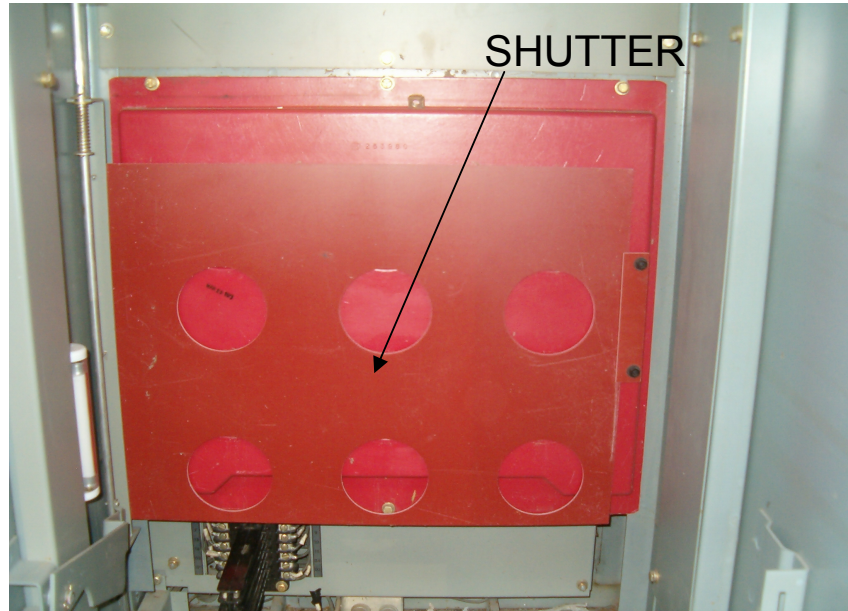

Figure 4-1 Shutter assembly
- Shutter: the fiberglass barrier that isolates the live bus connections to the cell (Figure 4-1).